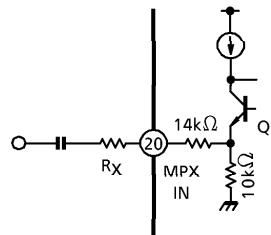

Fig.2 Internal circuit of MPX IN terminal
This IC can attenuate only FM stereo main signal level. Because MPX input for main signal (pin⑳) is independent of that for pilot signal (pin㉑, this terminal is shared with AM input). Internal circuit of MPX IN terminal (pin⑳) is shown in Fig.2. FM stereo main signal level can be attenuated by connecting an external resistor R_X . Because FM stereo main signal level is attenuated by internal resistor (14k Ω and 10k Ω) and resistor R_X . And it is applied to an emitter of transistor Q.